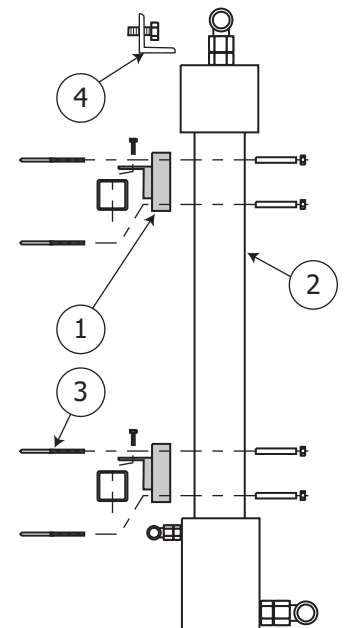

Figure 4. 6995 membrane element installation
V. Install the new membranes (Figure 4).
- Install the eight mounting saddles (1) on the frame members.
VII. Tighten it up (Figures 4 and 5).
- Tighten the U-bolts (Figure 4, 3) securing the membrane elements to the frame.
- Tighten the hold-down clamps (Figure 4, 4) securely against the tops of the membrane elements.